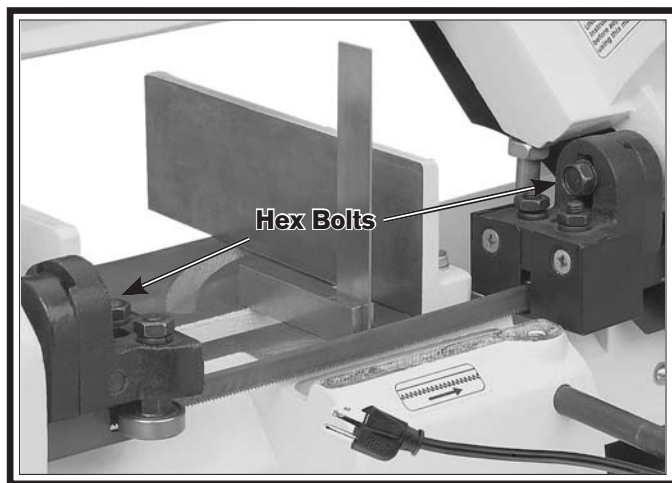

Figure 55. Squaring the blade.
3. Place a square on the table bed and against the edge of the blade, as shown in **Figure 55**, then check different points along the length of the table between the blade guides.
4. If the blade is not square to the table, loosen the hex bolts shown in **Figure 55** and rotate the blade guide bearing assemblies as necessary until the blade is perpendicular to the bed, then re-tighten the hex bolts.